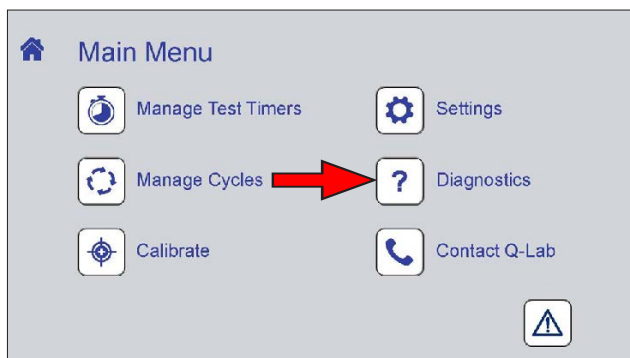
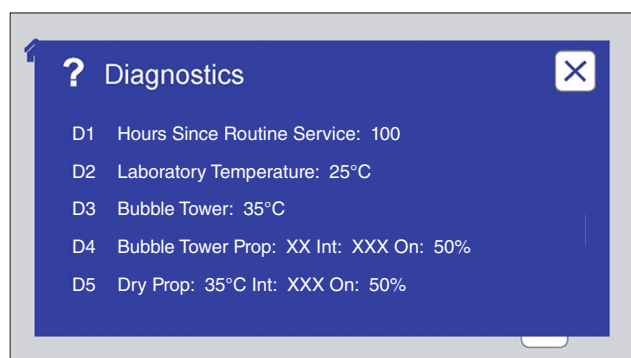

Figure 9.8a: Touch the Diagnostics icon on the Main Menu screen to display diagnostic information.
Figure 9.8b: The Diagnostics screen displays current machine operating conditions.
- On the Main Menu screen, touch the Diagnostics icon (Figure 9.8a) to display the Diagnostics screen (Figure 9.8b).